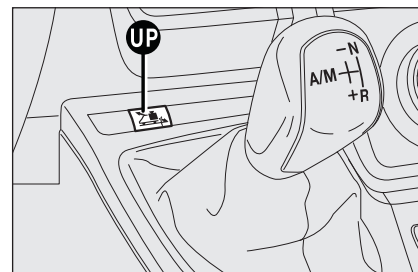

fig. 4
- the second fully automatic (**AUTO**), where the system decides when to shift gear. This mode allows you to use the **UP** function (steep road function), which allows you to shift gears at higher speeds to allow you to drive up very steep roads easily with any load. To engage this function, press the **UP** button - **fig. 4** between the controls on the dashboard. Select the gear and the operating mode **MANUAL** or **AUTO**) by operating the control lever at any speed.
The **UP** function is turned on by pressing the **UP** button **fig. 4** located between the controls in the dashboard. After this function is activated the (green) warning light  in the instrument panel comes on together with a confirmation message in the reconfigurable multifunction display (see next paragraph).